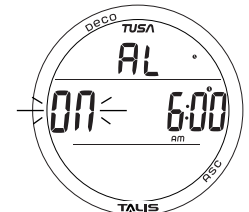

Fig. 11A - DAILY ALARM STATUS
**DAILY ALARM STATUS**, information includes (Fig. 11A):